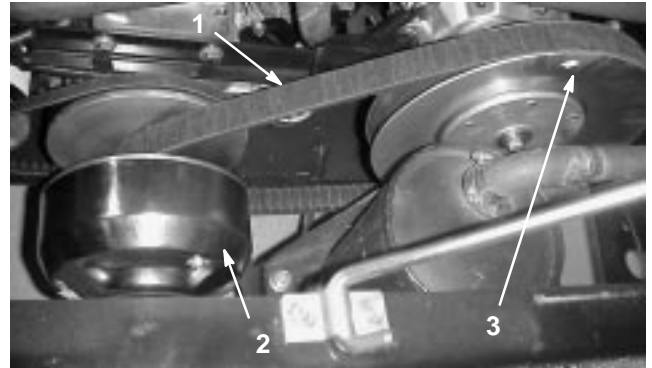

Figure 25
1. Rotate and route the belt over the secondary clutch (Fig. 25).
2. Remove the belt from the primary clutch (Fig. 25).